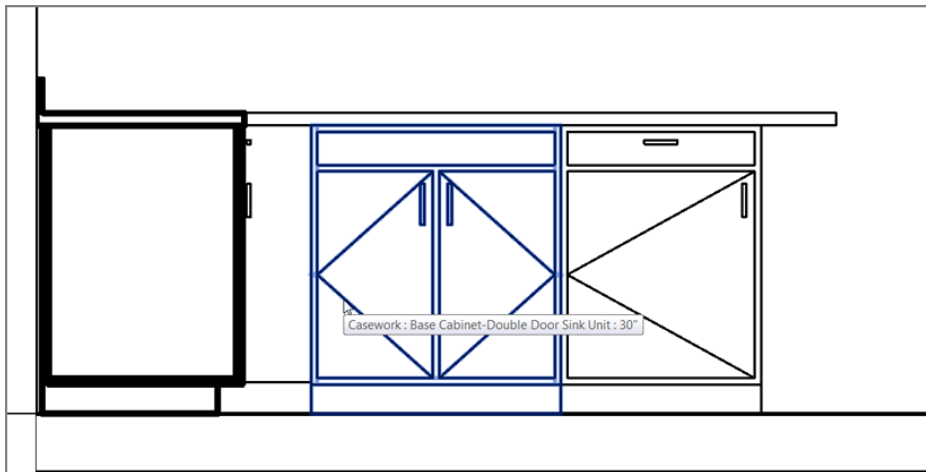

FIGURE 11.81: Picking the base cabinet with two doors and one drawer
2. Zoom in on the cabinets, as shown in Figure 11.81.
5. Pick the base cabinet with two doors and one drawer (see Figure 11.81).